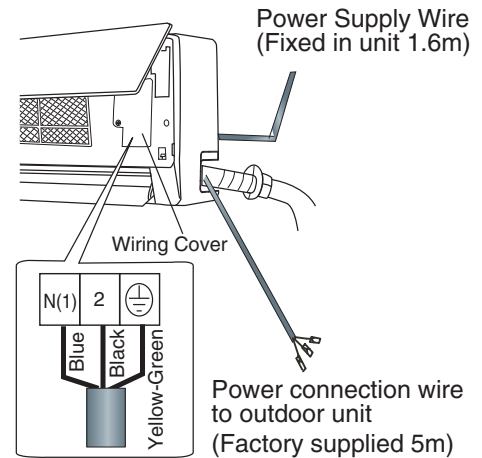

Fig.15 (K9AP, K12AP)
1. The power wire and power connection wire are supplied in factory in a fixed length. (Fig.15,16,17)
2. Open the surface panel and remove the wiring cover. (Fig.15,16,17)